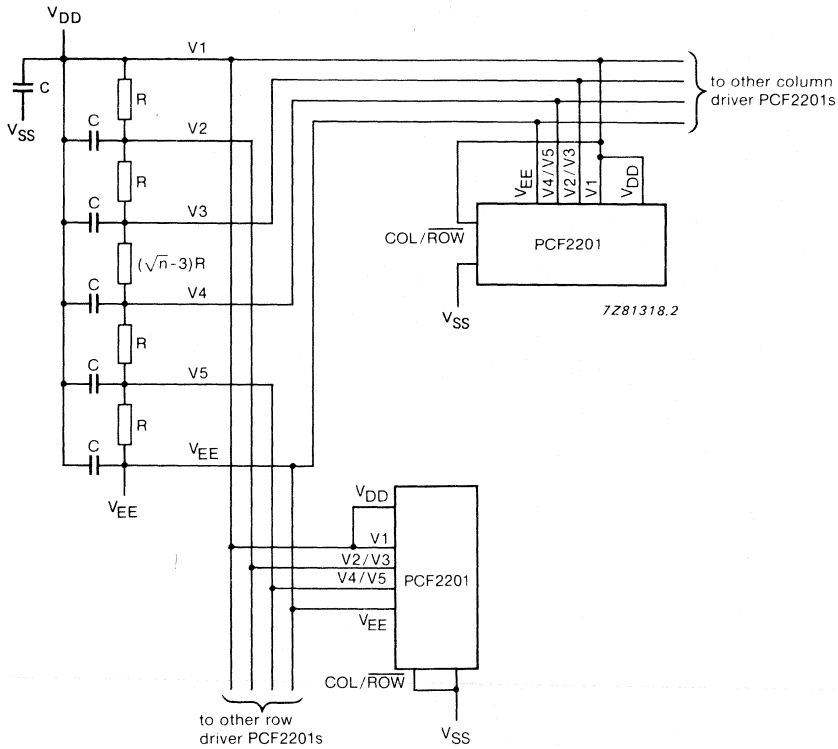

Fig. 6 Unbuffered LCD biasing level generation.
The intermediate bias levels are generated by a resistive divider (see Fig. 6). Capacitors (C) are used to smooth out switching transients. Considerable power consumption may result by using this arrangement when driving a large LCD flat-panel, because of the low impedance of the resistive divider.